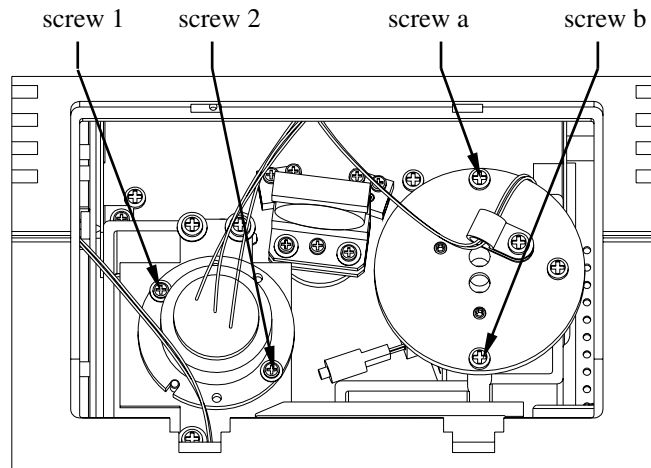

Figure 11.1 Lamp compartment
This instrument is designed for easy access in lamp replacement. Minimum adjustment is required for the replacement. The tungsten halogen lamp is seated in a specially designed holder that is located in the right half part in the lamp compartment (Figure 11.1). However the deuterium lamp that comes up with a ring-typed aluminum seat is located in the left half part respectively.
- ◆ Unscrew the retaining screws (screws a and b in Figure 11.1) of the holder of tungsten halogen lamp. And pull the holder straightly upward.
- ◆ Unscrew the retaining screws (screws 1 and 2 in Figure 11.1) on the white aluminum seat for